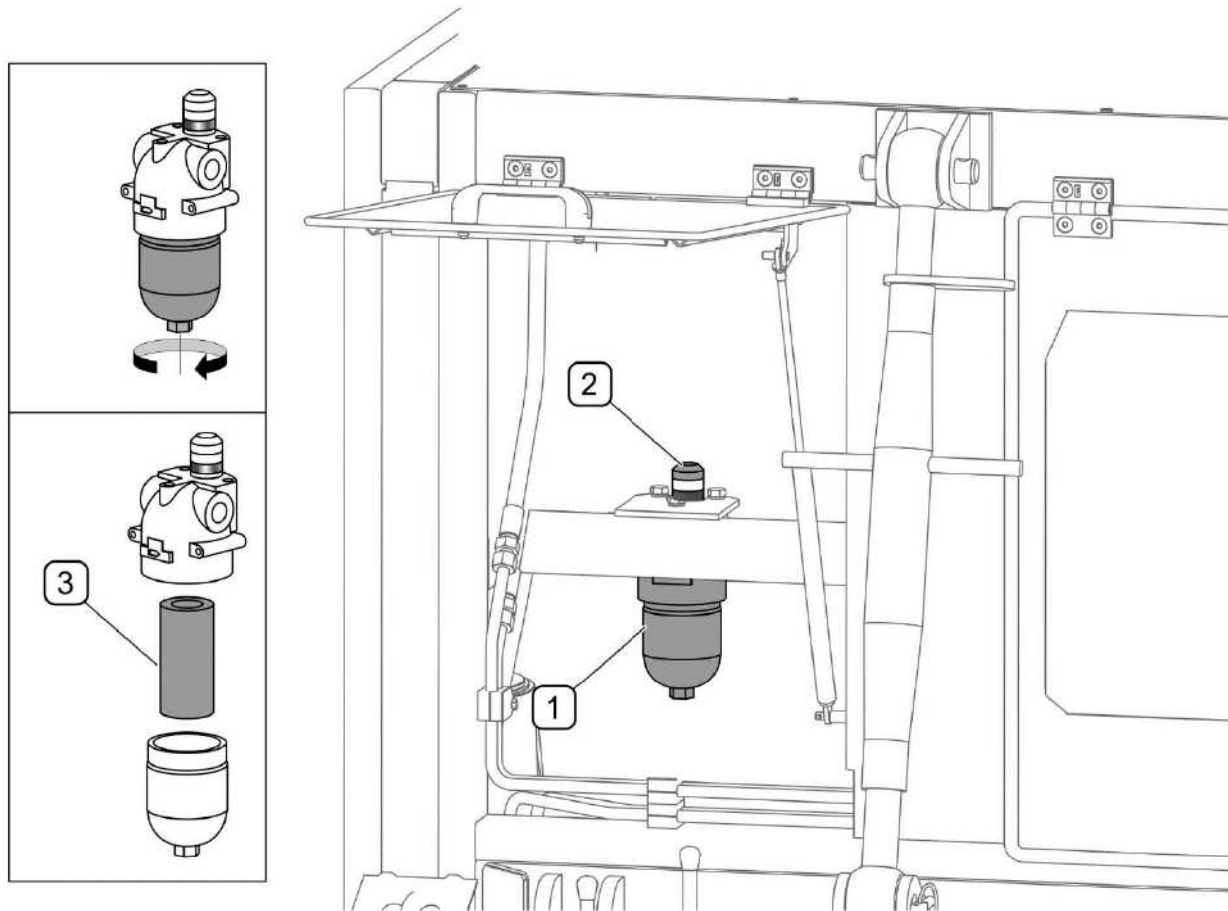

FIG. 5.18 Pressure oil filter with contamination indicator
(1) - pressure oil filter; (2) - indicator of filter cartridge contamination; (3) - pressure filter cartridge;
Pressure filter (FIG. 5.18) is located below the oil tank. Pressure oil filter (1) is equipped with contamination indicator (2). If filter cartridge is contaminated, the indicator changes its colour from white to red. Within the scope of hydraulic system maintenance, check filter condition and replace filter cartridge, if necessary.